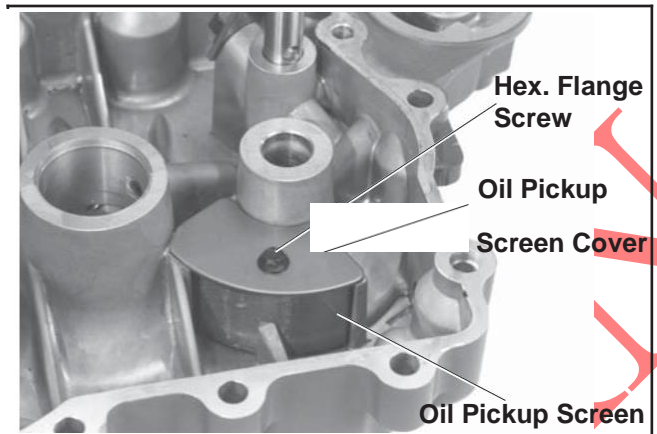

Figure 9-38. Removing Oil Pickup.
2. Remove the hex. flange screw, oil pickup cover and oil pickup screen. See Figure 9-38.